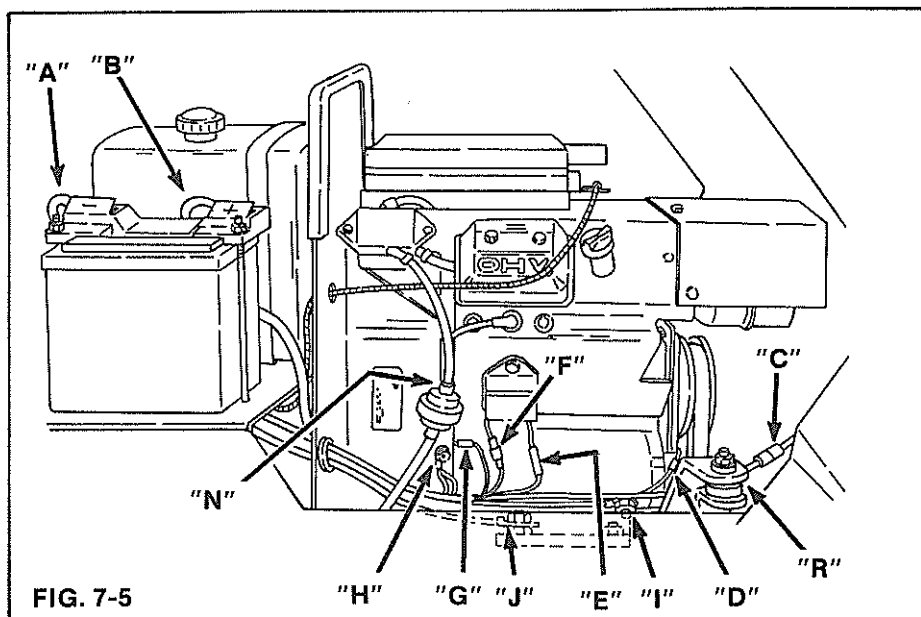

FIG. 7-5
REINSTALLATION (Figures 7-5, 7-6 & 7-7)
6. Connect the fuel line at filter (N), Figure 7-5 and 7-6.
NOTE - The fuel line from the tank must be routed thru the engine support away from driveshaft and other moving parts. Open fuel shut off valve (M) on fuel tank Figure 7-5.
8. Install all wires thru heat shield. Connect black ground (-) cable to right hand rear engine mounting bolt (J), Figure 7-5. Connect red positive (+) cable (I) to starter terminals.
9. Install block ground wire (H) to engine blower housing. Carefully connect blue ignition wire (G) to tab at engine.
10. Connect red/black wire (F) to engine lead.
11. Connect red wire (E) to regulator lead.